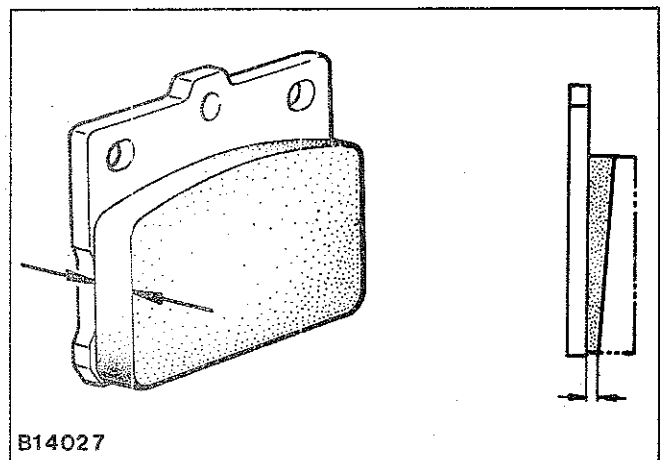

Fig. 36—Checking disc pads for wear (imported type)
- (1) Loosen wheel retaining nuts, raise the vehicle and place on safety jacks.
- (2) Mark the position of the wheel to hub and then remove the wheel.
- (3) Inspect pad lining thickness and replace the pads if any part of the lining is below the minimum specification, Refer Fig. 36. To replace pads, refer to Group 5 Brakes for the correct procedure.
- (4) Replace wheel in the previously marked position and tighten nuts, raise vehicle, remove safety jacks and lower to floor.
- (5) Torque wheel nuts to specifications in two stages using a diagonal sequence.